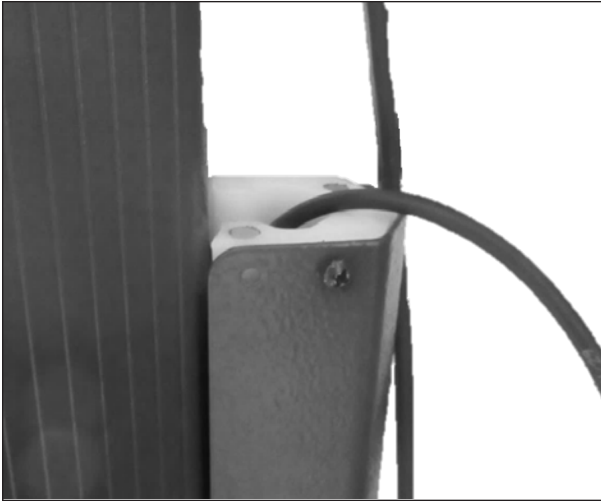

FIGURE 86: CHECK WIRE DAMAGE
1. Check if the wire has not been damaged (cuts in wire, disconnected etc.) see Figure 86.